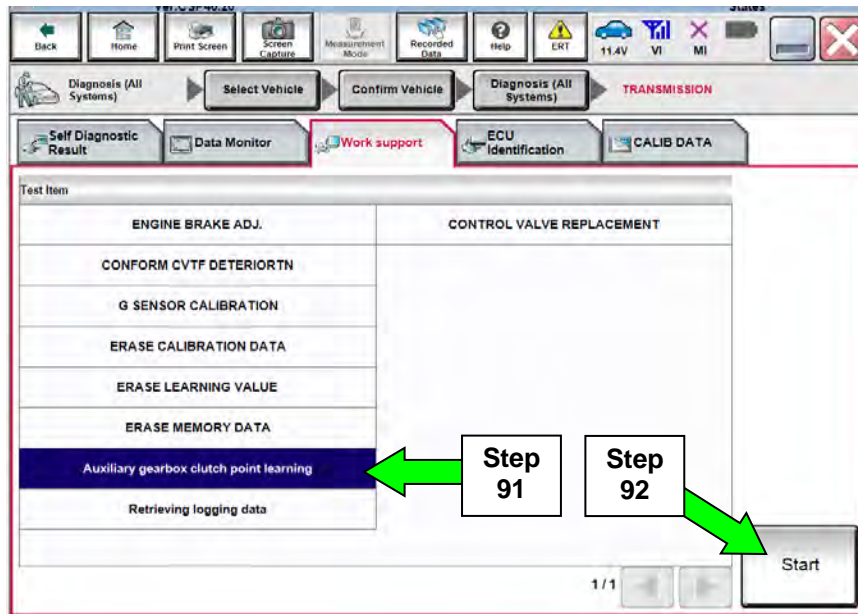

Figure 50
90. Navigate C-III plus to the screen shown in Figure 50.